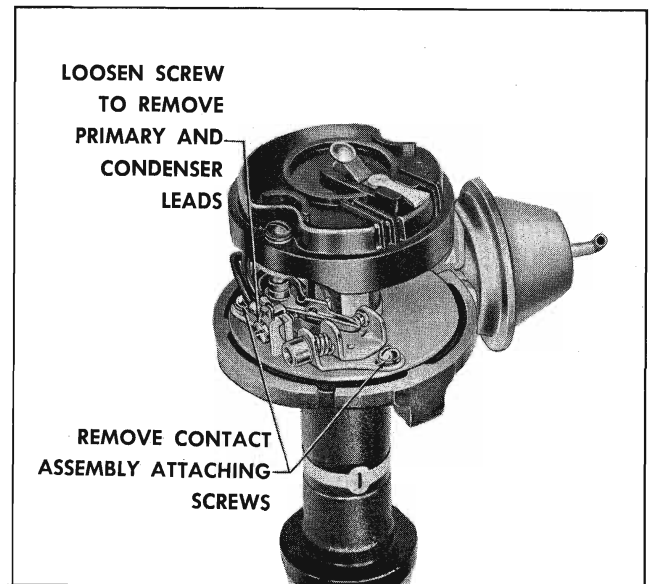

Fig. 11-54 Distributor Contact Details
1. Remove two attaching screws (Fig. 11-54) which hold base of contact set assembly in place.
2. Remove condenser lead and primary lead from nylon insulated connection by turning screw (Fig. 11-54) in contact set.